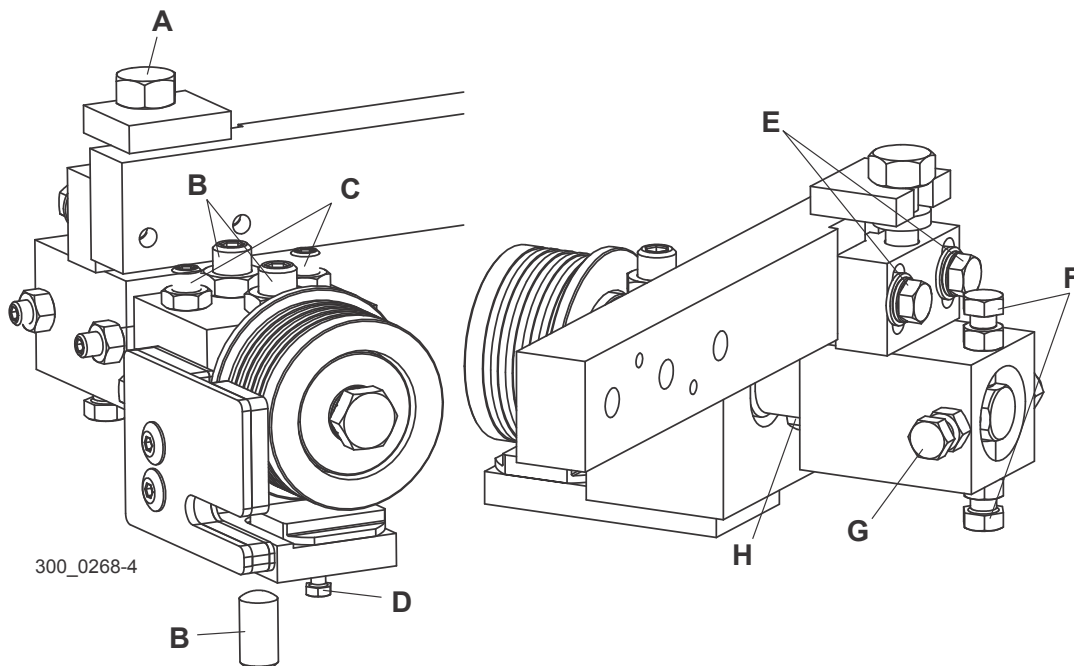

FIG. 3-20
See Figure 3-20. Standard Roller/Block Guides: Turn blade guide assembly bolt (A) clockwise to move the guide roller up off the blade. Loosen screws (F) and (G) and move the guide assembly back away from blade.